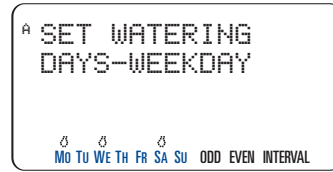

Figure 7: Selecting "Days of Week"
- Press **NEXT** until the desired day of the week flashes. Press **ENTER** to select that day. Day(s) selected will have a water drop icon  over the day of week. Continue until all the desired days are selected. [See Figure 7]